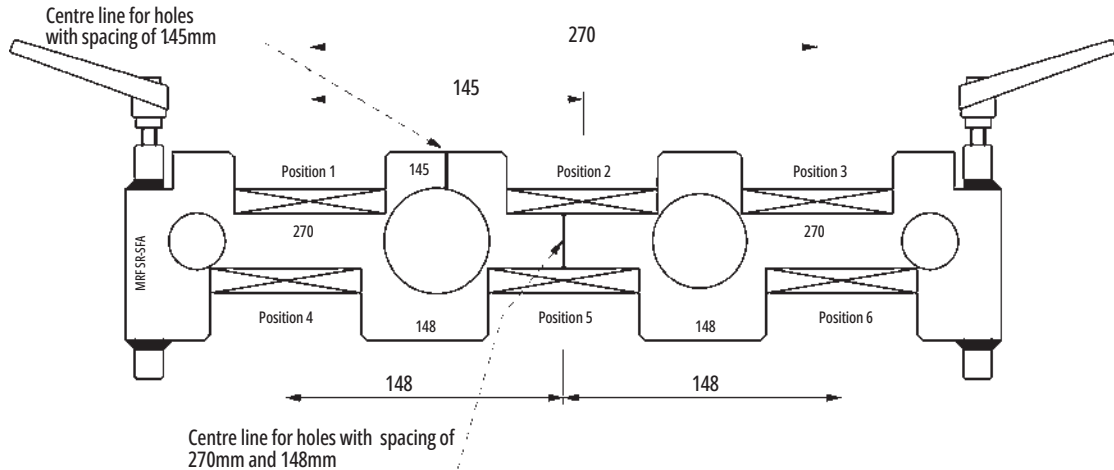

fig. 1
- 2 holes with spacing of 145 mm (fig. 1, pos. 1 and 2)
- 2 holes with spacing of 270 mm (fig. 1, pos. 1 and 3)
- 3 holes with spacing of 148 mm (fig. 1, pos. 4, 5 and 6)